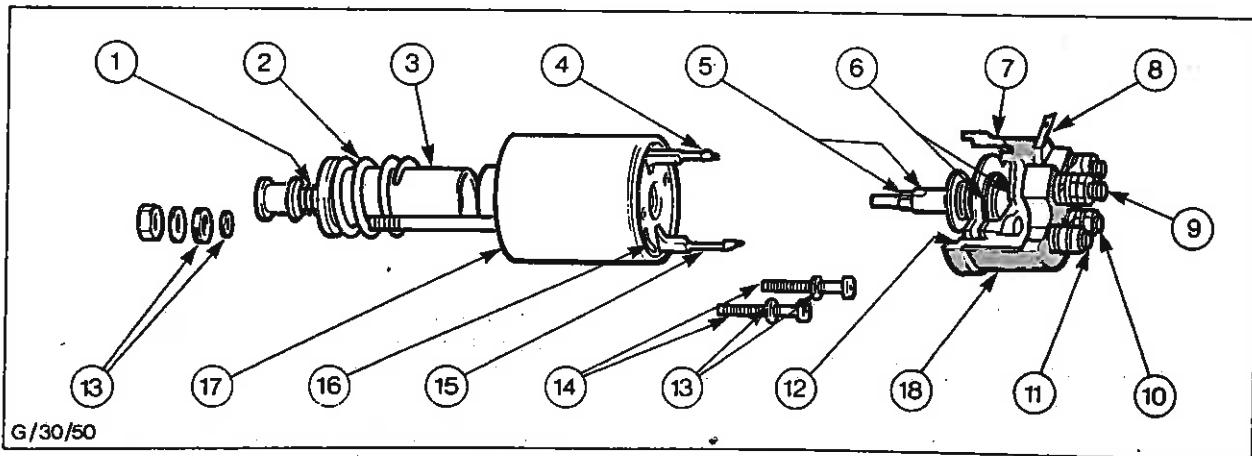

Fig. 9 - Solenoid Dismantled
In addition to the engagement spring inside the plunger and the return spring outside the plunger, the solenoid plunger is also fitted with a lost motion spring (Fig. 9) which provides a measure of lost motion as the drive commences to disengage, ensuring that the solenoid contacts are open before the pinion retracts. This also takes effect if the pinion remains engaged with the flywheel ring gear when the solenoid switch is released.
After being in service for long periods, the contacts may require renewing. If this is necessary, the major part of the solenoid can be retained and the solenoid repaired by fitting a service replacement contact set comprising terminal and base assembly - refer to Fig. 9.
2. Fit the sealing ring to the groove in the intermediate bracket. Also fit the sealing washers to the fixing bracket, one at each end, through the bolt entry point and one on the dowel peg (Fig. 9).